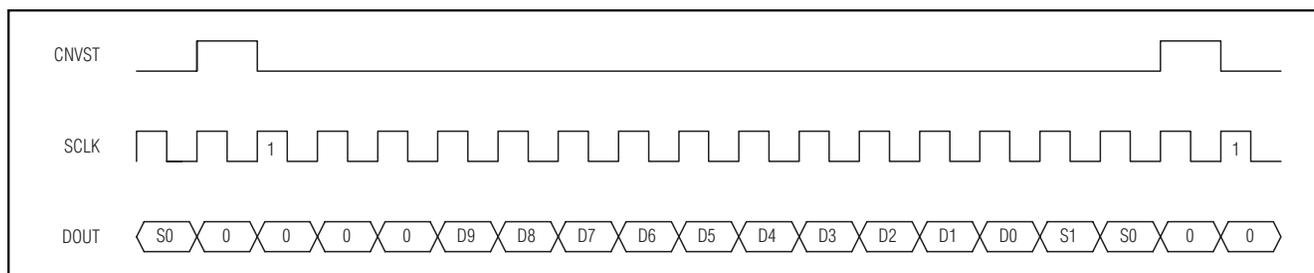

Figure 17. DSP Interface—Continuous Conversion
The MAX1070/MAX1071 can also be connected to the TMS320C54_ by using the data transmit (DX) pin to drive CNVST and the CLKX generated internally to drive SCLK. A pullup resistor is required on the CNVST signal to keep it high when DX goes high impedance and 0001hex should be written to the DXR continuously for continuous conversions. The power-down modes may be entered by writing 00FFhex to the DXR (see Figures 17 and 18).
registers should be configured for late framing (LAFR = 1) and for an active-low frame (LTFS = 1, LRFS = 1) signal. This is also the best way to enter the power-down modes by setting the word length to 8 bits (SLEN = 1001). Connect the V_L pin to the ADSP21_ _ _ supply voltage when the MAX1070/MAX1071 are operating with a supply voltage higher than the DSP supply voltage (see Figures 17 and 18).